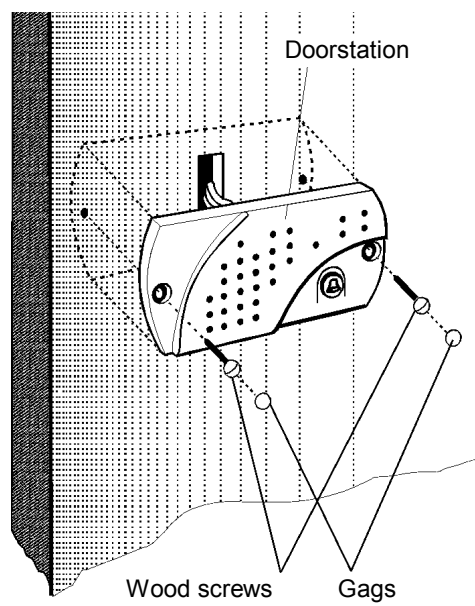

Figure 3 – Mounting drawing.
**BVD-101V** doorstation should be mounted horizontally with right-down oriented  button (Fig. 3).
Wood screws from mounting kit may be used for fastening the doorstation from front side (Fig. 3).